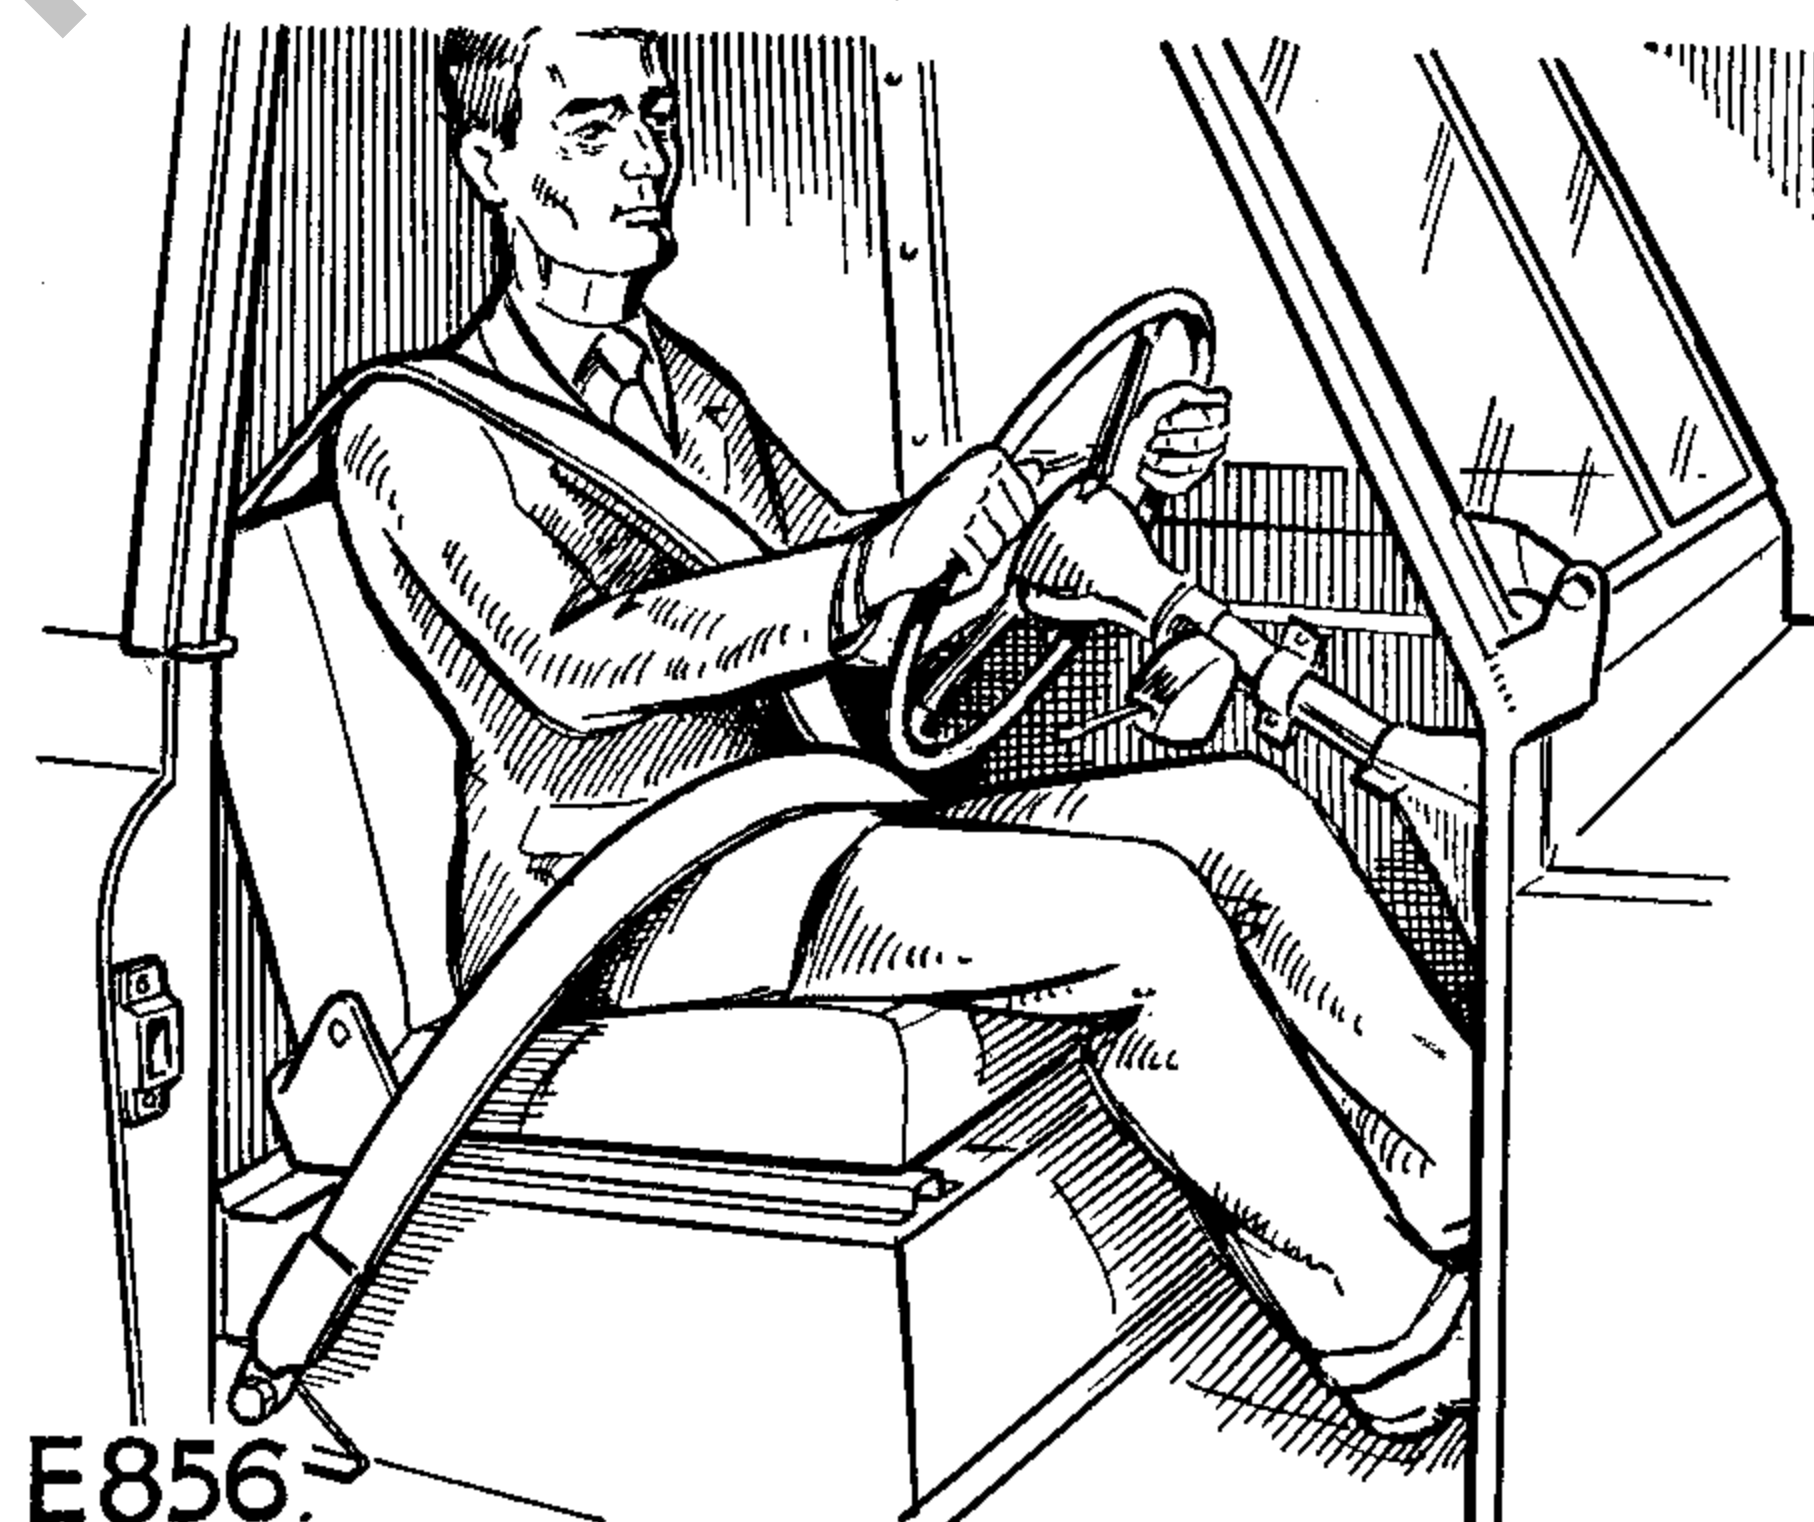

Fig. 16.
14. When seated in the vehicle the straps should be attached to the brackets so that they fit as shown in Fig. 16, that is, with the shoulder strap over the outboard shoulder and the buckle and tongue on the hip.